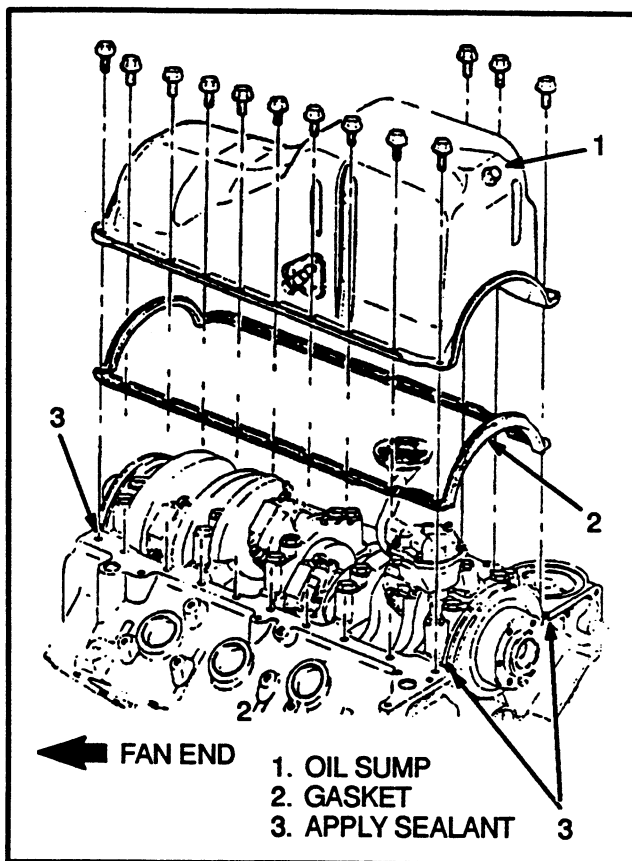

FIGURE 19. OIL SUMP
### **Oil Sump, Installation (See FIGURE 19.)**
1. Apply an RTV sealant to the surfaces of the engine block as shown in FIGURE 19.